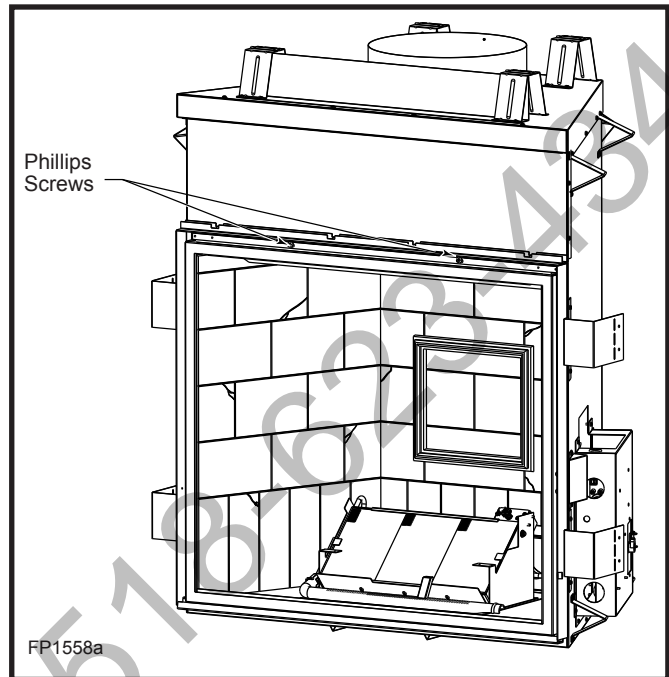

Fig. 35 Remove Phillips screws, tilt frame forward and lift off bottom door track. (Shown without logs for clarity.)
3. Using a Phillips screwdriver, unfasten two (2) screws located at the top of the glass frame. (Fig. 35)